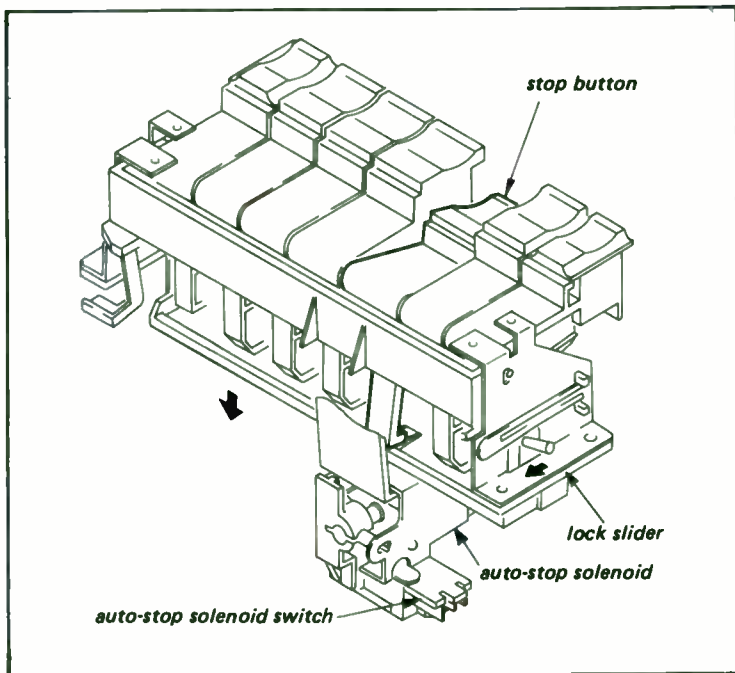
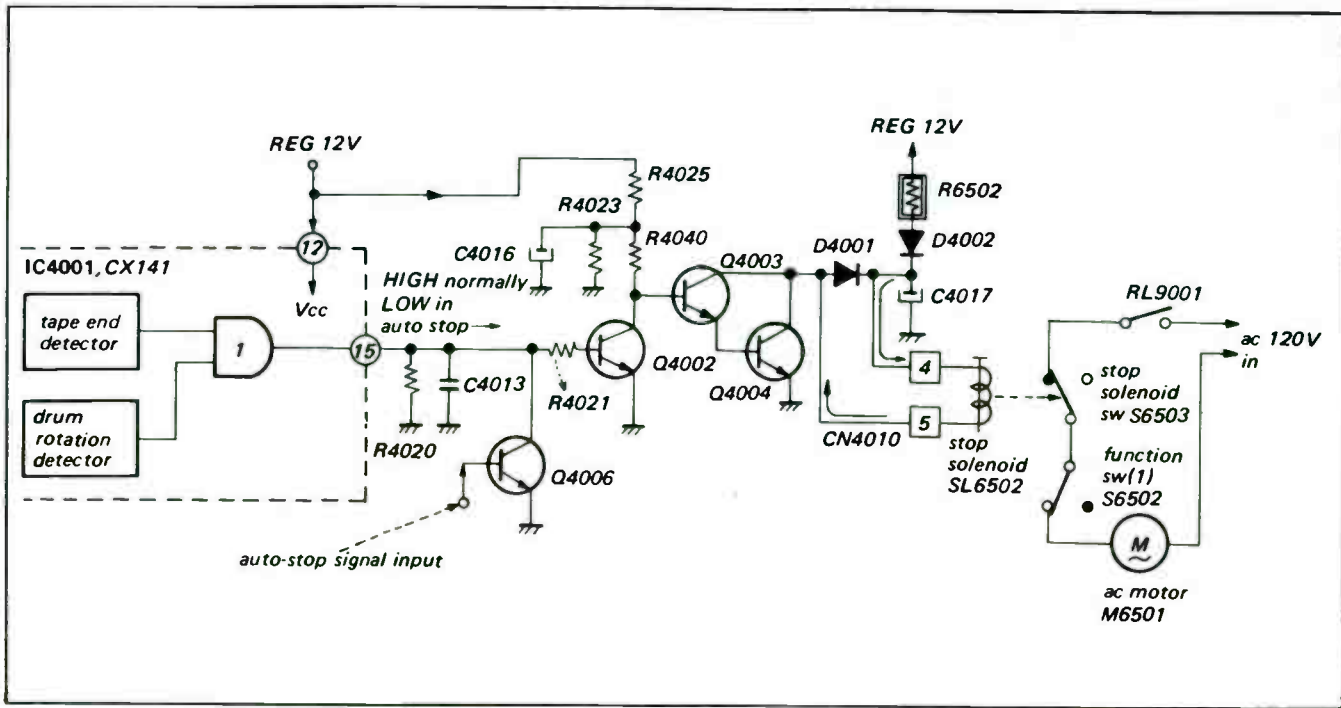

Fig. 3-15. Drawing of stop solenoid.
Fig. 3-16. Stop solenoid drive circuit.
The function of the auto-stop solenoid is to release the function button. The power supply for the ac motor is cut off when the auto-stop is energized. When any one of the function buttons is depressed, the button is latched mechanically by the lock slider of the function button. Release of the function button can occur in two ways: (1) manually by depressing the stop button, or (2) electrically by energizing of the auto-stop solenoid by an output from the system control (Fig. 3-15). The lock slider releases the function button in each case.
When the auto-stop solenoid is energized, the lock slider is pulled in the direction shown by the arrow in Fig. 3-15 to release the function button lock. Since the auto-stop solenoid is still energized and the lock slider remains pulled even if any one of the buttons is pushed. The ac motor does not start, even if the function button is kept depressed after the auto-stop, because the stop solenoid switch is turned on. The auto-stop solenoid drive circuit is shown in Fig. 3-16.